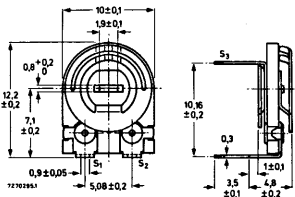

Fig.1a
- 20 = for horizontal mounting (Fig.1a)